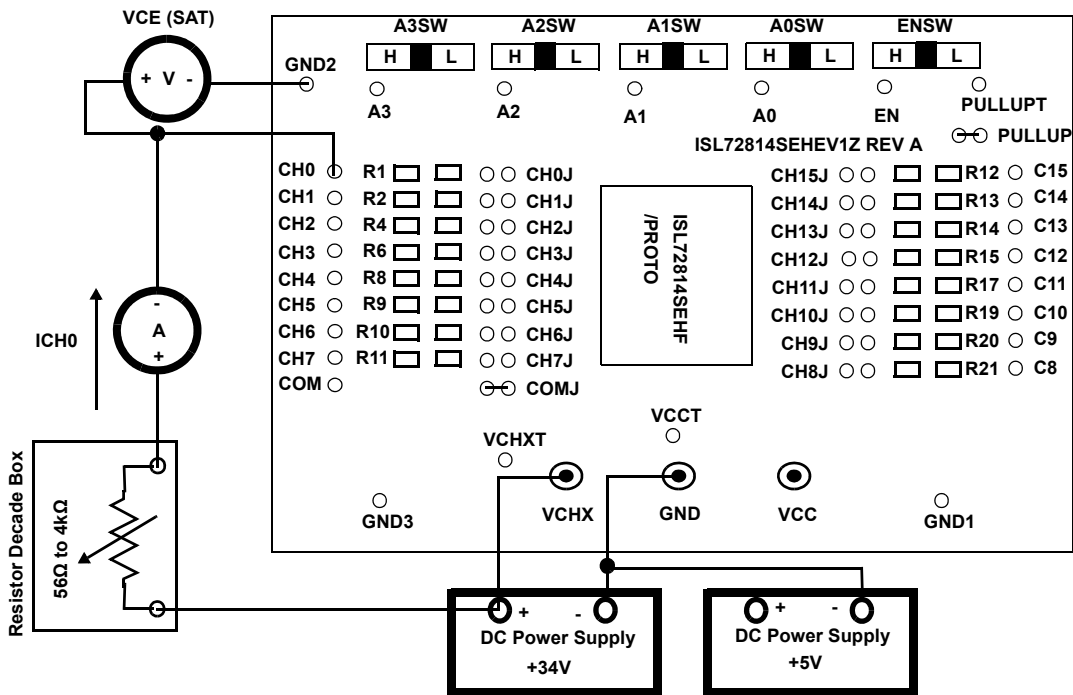

Figure 3. Basic Evaluation Test Setup Block Diagram (Measuring VCE (SAT) vs ICx)
1. Configure the board as shown in Figure 3 on page 8.
5. Attach the 5V_{DC} power supply to the banana jacks labeled VCC and GND as shown in Figure 3. Positive terminal at VCC and negative terminal at GND. The supply should be capable of delivering 3V to 15V and 100mA of current. Set the supply voltage to 5V.
6. Attach the 34V_{DC} power supply to the banana jacks labeled VCHX and GND as shown in Figure 3. Positive terminal at VCHX and negative terminal at GND. The supply should be capable of delivering 34V and 1A of current. Set the supply voltage to 34V.
7. Connect the resistor decade box and Ammeter (A) to the CH0 pin on the evaluation board as shown in Figure 3. One end of the decade box resistor should be connected to the CH0 pin through the ammeter to measure the ICH0 current. The other end of the resistor decade box connected to the 34V_{DC} power supply. Set the decade box resistance to 170Ω.
8. Connect a voltmeter (V) between the CH0 pin and GND as shown in Figure 3. The voltmeter measures the VCH (SAT) voltage.